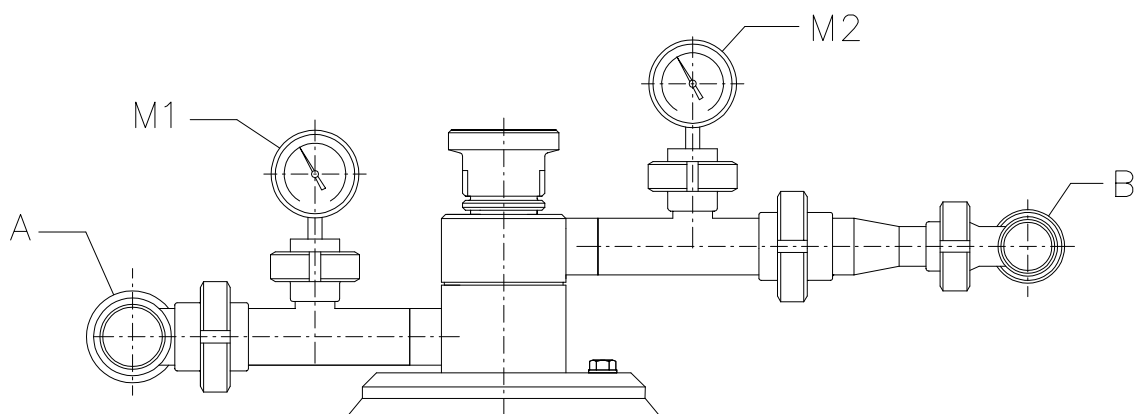

Figure 8.1
It's important to avoid air mixing with liquid, so it's necessary to immerse the centripetal pump into the rotating liquid and to have a counterpressure in outlet pipes. This is obtained by acting on the regulating valves (A and B in figure 8.1) and on the regulator (RPL in figure 7.2) of the constant pressure valve (if present).
Valve (A in figure 8.1) regulates the outlet pressure of buttermilk (the manometer M1, shows the counter pressure at the outlet of the buttermilk centripetal pump), while valve (B) permit to adjust the flow rate and pressure of the cream (the manometer M2, shows the counter pressure at the outlet of the cream centripetal pump).